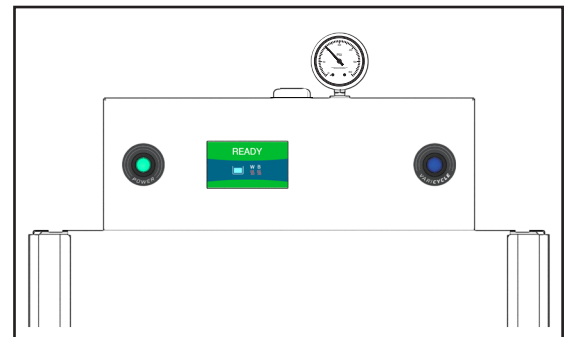

Fig. 47 - Ready screen after preheating
8. READY is displayed when the machine is filled (see Fig. 47).